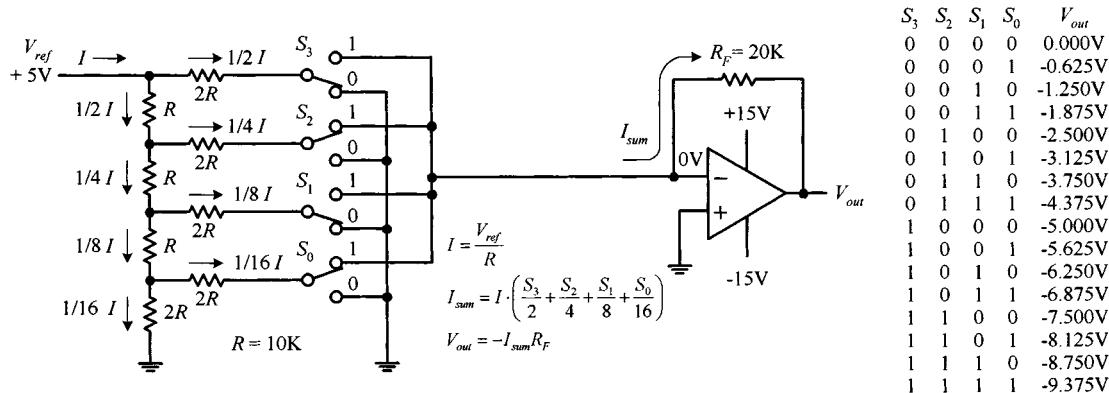

FIGURE H.7
that we need only two resistor values, R and $2R$. Figure H.7 shows a simple 4-bit $R/2R$ DAC. For now, assume that the switches are digitally controlled (in real DACs they are replaced with transistors).
The trick to understanding how the $R/2R$ ladder works is realizing that the current drawn through any one switch is always the same, no matter if it is thrown up or thrown down. If a switch is thrown down, current will flow through the switch into ground (0 V). If a switch is thrown up, current will flow toward virtual ground—located at the op amp's inverting input (recall that if the noninverting input of an op amp is set to 0 V, the op amp will make the inverting input 0 V, via negative feedback). Once you realize that the current through any given switch is always constant, you can figure out that the total current (I) supplied by V_{ref} will be constant as well. Once you've got that, you figure out what fractions of the total current passes through each of the branches within the $R/2R$ network using simple circuit analysis. Figure H.7 shows that $\frac{1}{2}I$ passes through S_3 (MSB switch), $\frac{1}{4}I$ through S_2 , $\frac{1}{8}I$ through S_1 , and $\frac{1}{16}I$ through S_0 (LSB switch). If you're interested in how that was figured out, the following circuit reduction should help.
determined by $V_{\text{out}} = -I_{\text{sum}}R_F = -(156.25 \mu\text{A})(20 \text{ k}\Omega) = -3.125 \text{ V}$. The formulas and the table in Fig. H.7 show the other possible binary/analog combinations.